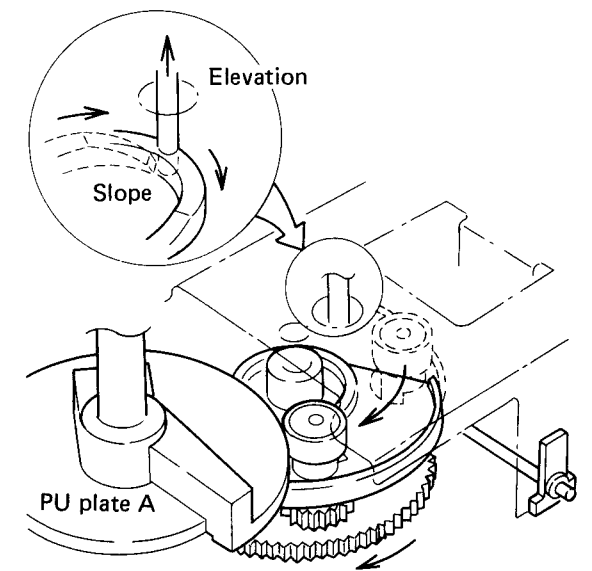

Fig. 6 Elevation up
1. At a signal from the control section, the gear motor will start to rotate, and gear A (plate) will rotate in the clockwise direction. Owing to the slope on the plate, the arm will be lifted up (Fig. 6).